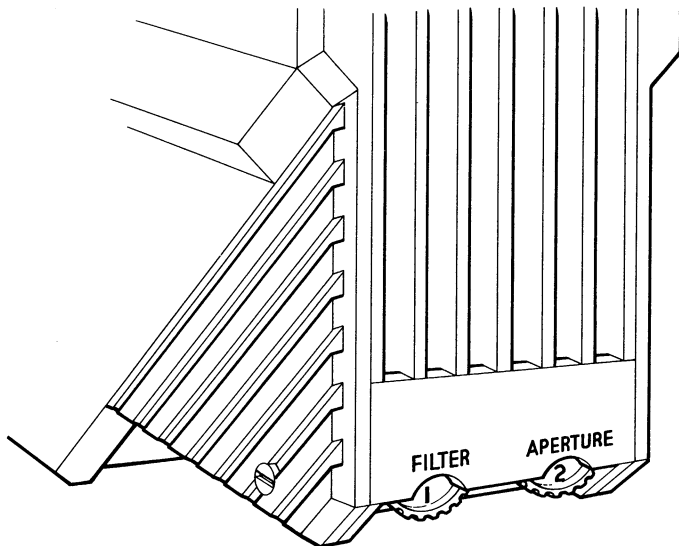

Fig. 3.10 Aperture and Filter Controls
Fitted at the back of the scanner assembly is an aperture turret which has positions for three apertures (Fig. 3.10). These are marked 0, 1 and 2, which correspond to 5.8, 2.4 and 1.0mm diameter. The apertures are selected so that the object temperatures covering the range -20°C to $+500^{\circ}\text{C}$ can be measured without the use of filters. The smaller the aperture (2) selected the higher the temperatures that can be viewed. The apertures are also selected to ensure a 20% overlap between temperature ranges. For the purpose of setting up the standard system for the first time set the aperture to the most sensitive setting (0).